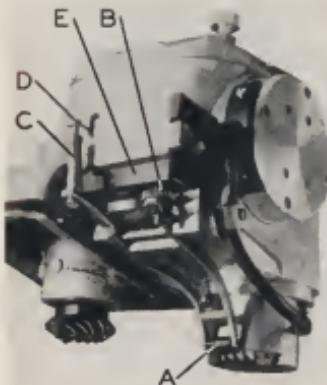

Fig. 9—Low slugger head.
The operation of the low-slugger cutter is governed by the movement of the small feeler roller under which the slug passes just before encountering the cutter. The low-slugger trip frame in which this roller is mounted transmits the motion to the plunger of the switch (E, Fig. 9) through the adjusting screw (B). When the roller is lifted by passage of type characters, a contact is made by the switch, energizing the magnet enclosed in the side cover of the low-slugger housing. This attracts the armature to the pole pieces, causing the roller on the armature to lift the link actuator arm which, through its linkage, lifts the pawl from the ratchet, allowing the cutter to rise out of cutting position. When the roller drops off the type, the circuit is broken by the switch, the actuator arm drops down, allowing the pawl to engage the ratchet and the cutter is drawn downward into cutting position. Since the roller is mounted ahead of the cutter, it drops off the type face before the cutter is clear of the type, hence a delay in timing of the descent of the cutter is necessary to avoid bleeding. This delay is provided by allowing the ratchet to over-run the point required actually to clear the type.
The counterbalance spring (C) Fig. 9 should be adjusted to the lightest tension which will overcome the tension of the switch spring and still give positive action of the low slugger roller. This adjustment is made by turning screw (D) Fig. 9.
Fig. 9, which is supported in a steel frame suspended from the low slugger housing. Since the maximum difference of height between type and blank slug is only .043 inch, it is necessary that the throw of this roller be accurately adjusted. This adjustment is made by turning the knurled-head screw (B) Fig. 9 until the action of the low slugger cutter is correct.